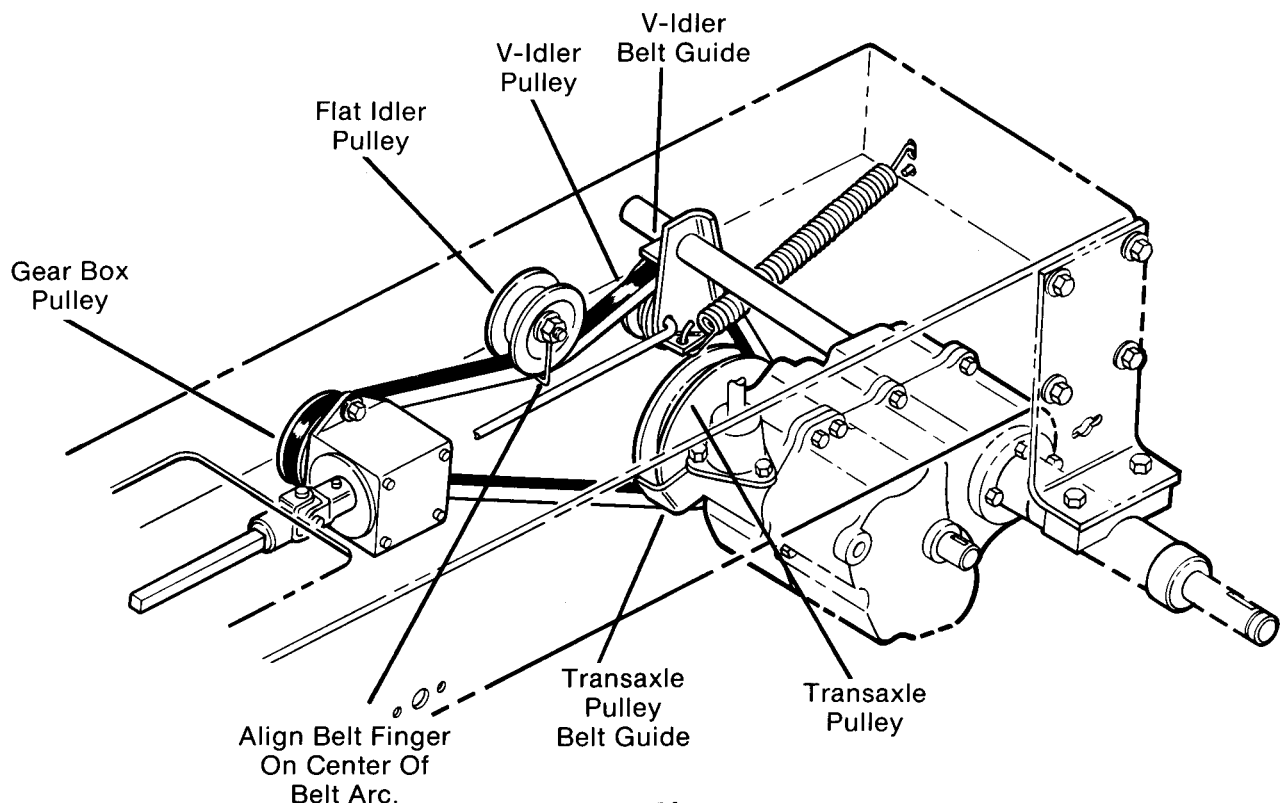

FIG. 54
- F. Remove old belt from pulleys and replace with a new belt. Be sure belt is routed as shown in (Fig. 54) NOTE: Belt must be to the **inside** of all belt guides. V-shape of belt must be in grooves of V-shaped pulleys. Reassemble flat idler pulley and belt finger but do not fully tighten the mounting hardware at this time. Flat side of belt should run **under** flat idler pulley and through belt finger as shown.
- H. Release parking brake and center belt finger on the arc of the belt under flat idler pulley, tighten the belt finger and pulley hardware in this position. (Fig. 54)